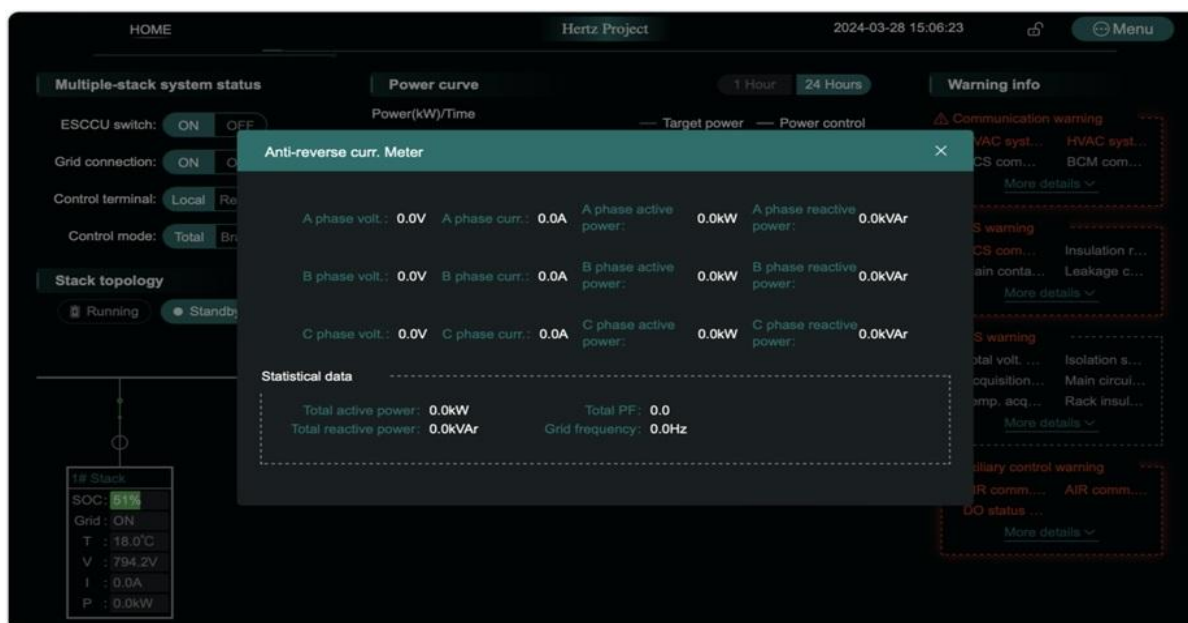

Figure 5-7 Anti-countercurrent Meter Interface
- 3) Backflow preventer data: click on "Backflow preventer" in the EMS management system's main page to view voltage, current, active and reactive power backflow preventer data, as well as statistical power consumption data for the system (refer to Figure 5-7).